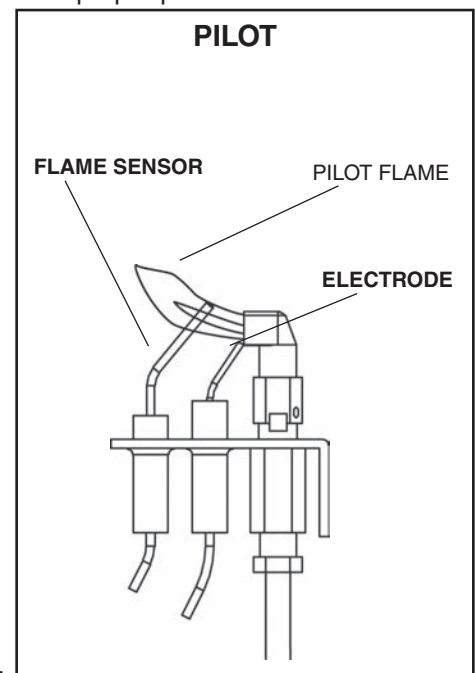

Figure 72: Pilot light.
- Check the pilot system for proper flame size and operation. Clean pilot free of soot, dust or any other deposits (Figure 72).